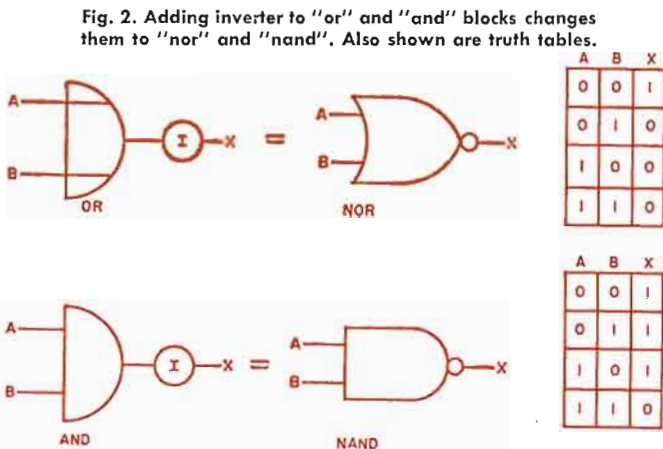

Fig. 2. Adding inverter to "or" and "and" blocks changes them to "nor" and "nand". Also shown are truth tables.
*Nor* and *nand* gates are illustrated in Fig. 2. Note that the *nor* gate produces a binary 1 output only when all input terminals are at the binary 0 voltage level. The *nand* gate produces a binary 0 output only when all inputs are binary 1.